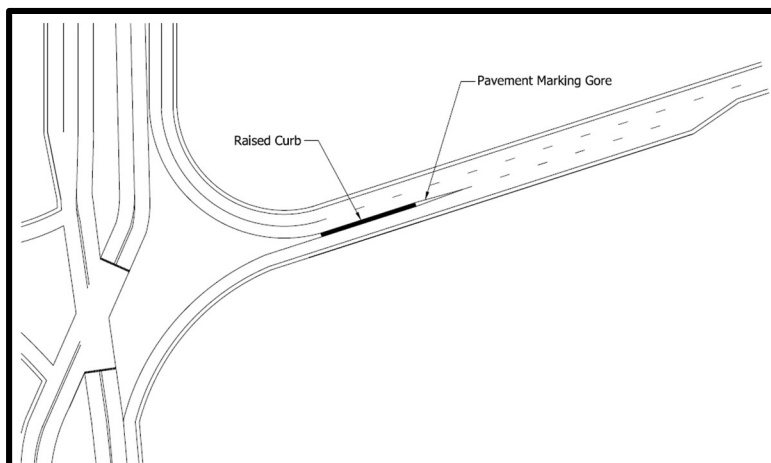

Figure 3. Free-flowing merge on entrance ramp.
- Be designed as free flowing, with a gore area and possibly a raised curb between movements (as shown in Figure 3).